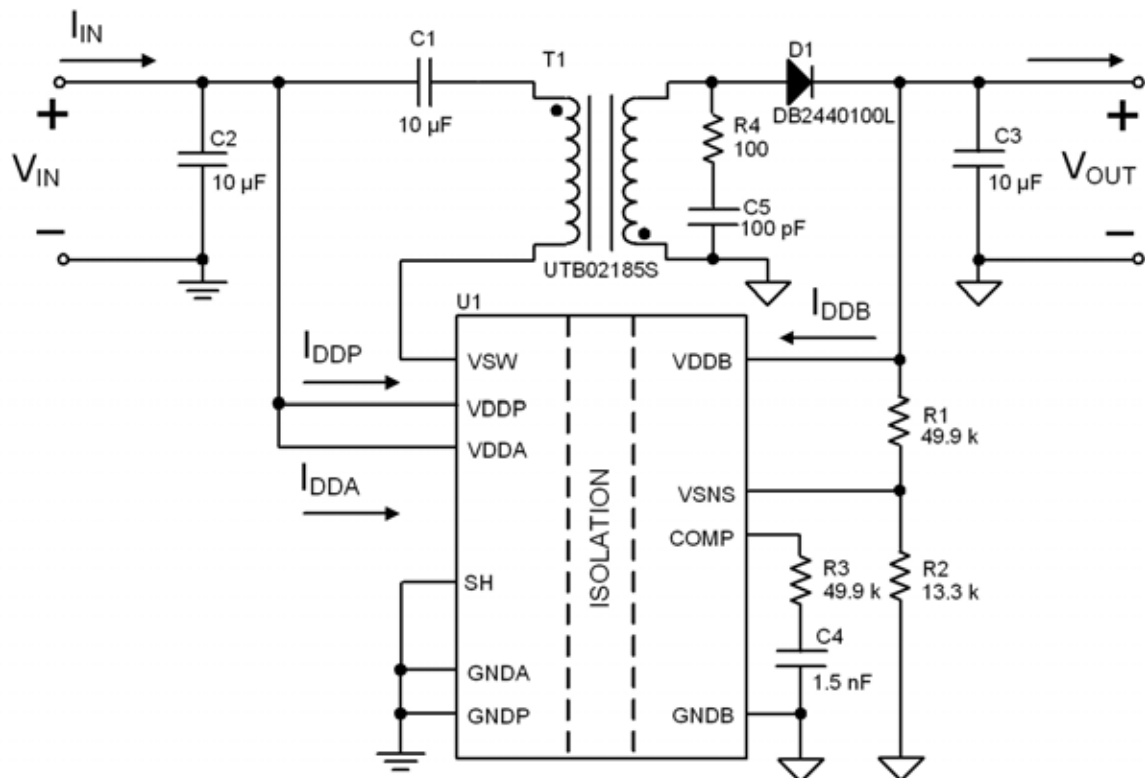
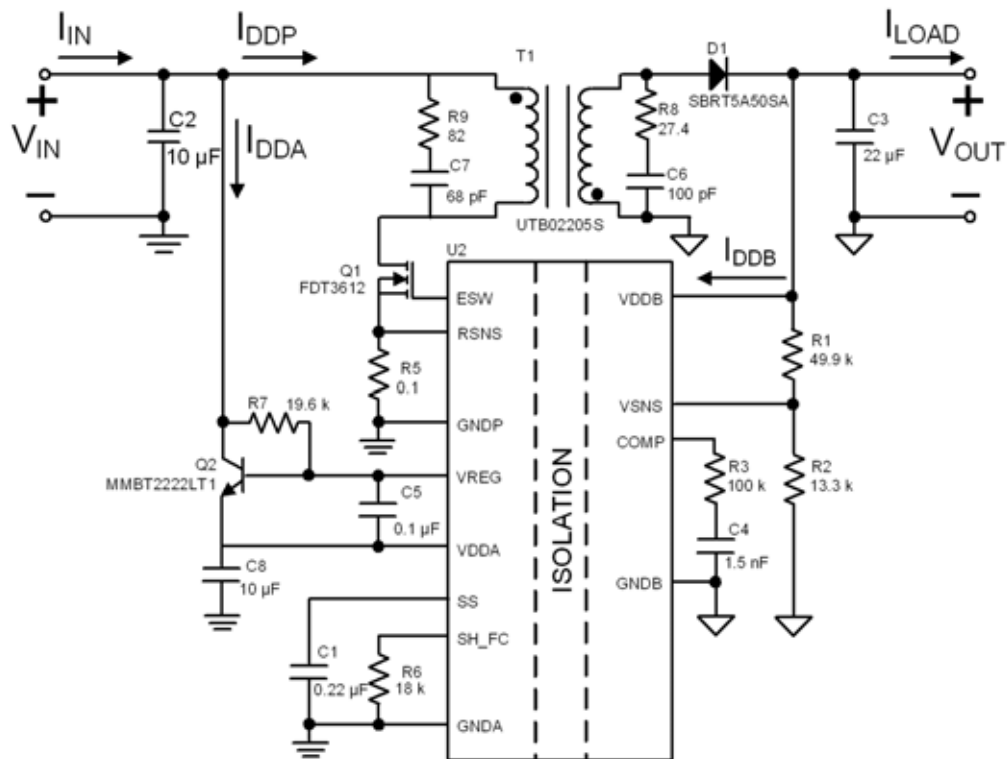

Figure 2. Measurement Circuit for Converter Efficiency and Regulation for Si882xx, Si883xx
Figure 3. Measurement Circuit for Converter Efficiency and Regulation for Si884xx, Si886xx
$V_{IN} = 24\text{ V}$; $V_{DDA} = 4.3\text{ V}$ (see Figure 3) for all Si8844x/64x; $V_{DDA} = V_{DDP} = 3.0\text{ to }5.5\text{ V}$ (see Figure 2) for all Si8824x/34x;
*Note: Maximum value allowed in the event of a failure. Refer to the thermal derating curve in Figure 3.